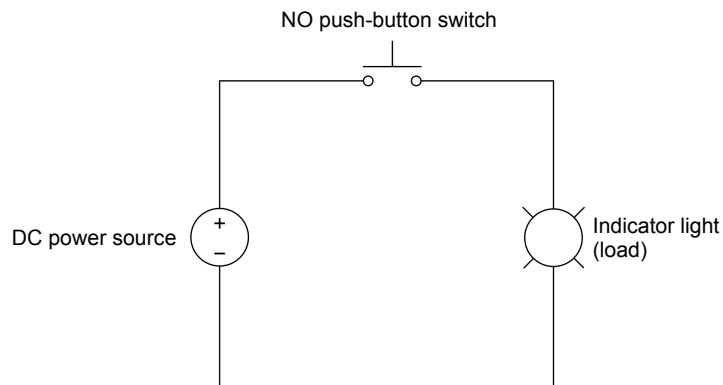
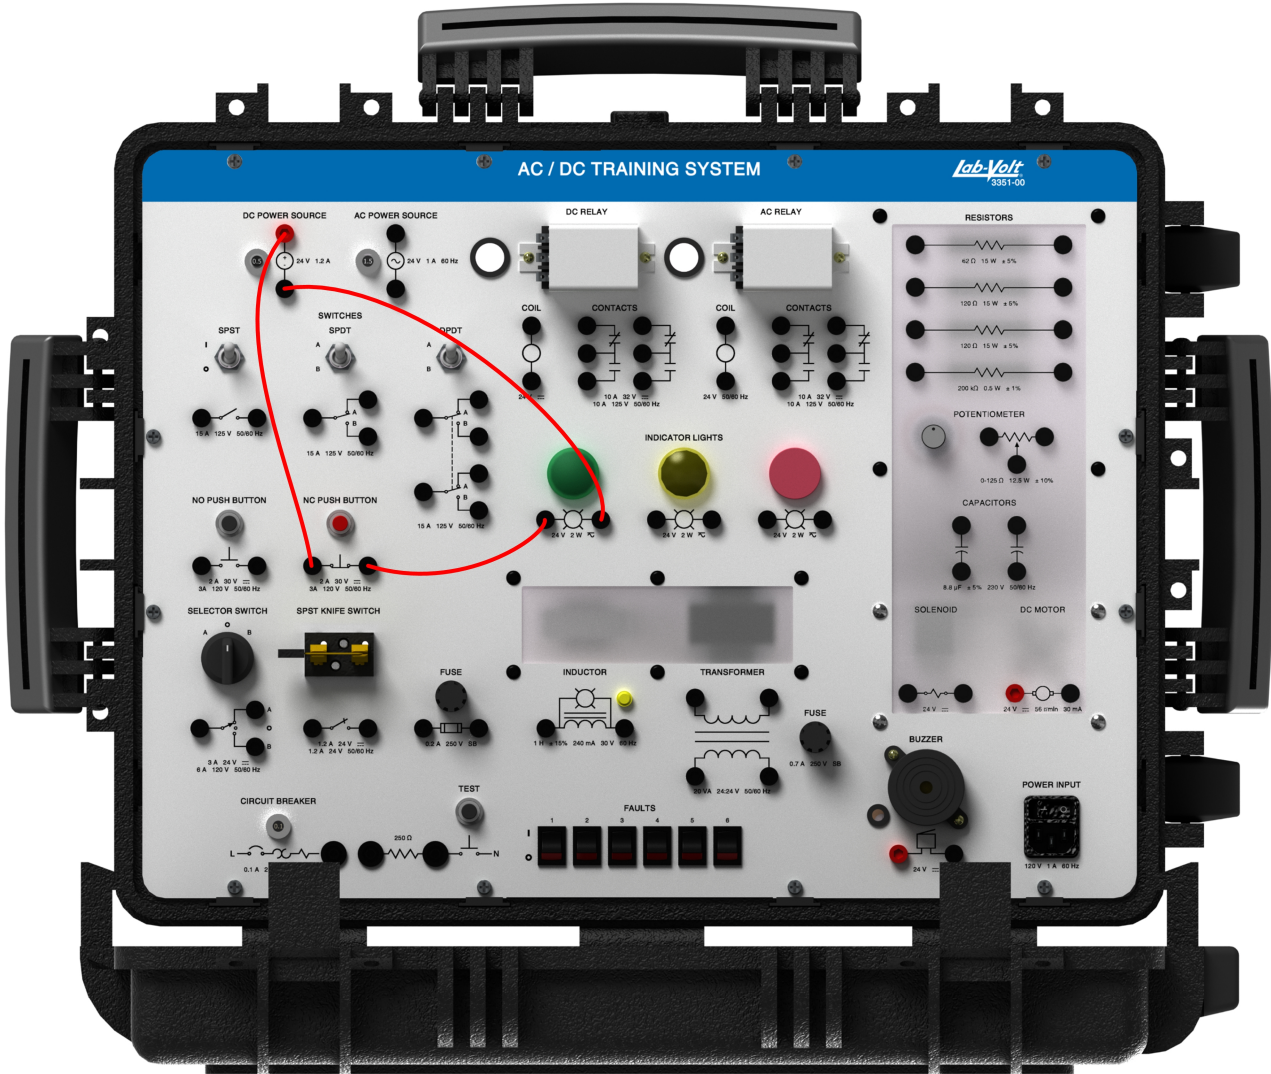

Figure 29. DC power source connected to an indicator light and an NO push-button switch (circuit diagram).
Figure 32. DC power source connected to an indicator light and an NC push-button switch (wiring diagram).
14. In the circuit of Figure 29, replace the NO push-button switch by a normally closed (NC) push-button switch. This results in the following circuit. Figure 32 shows the corresponding wiring diagram.